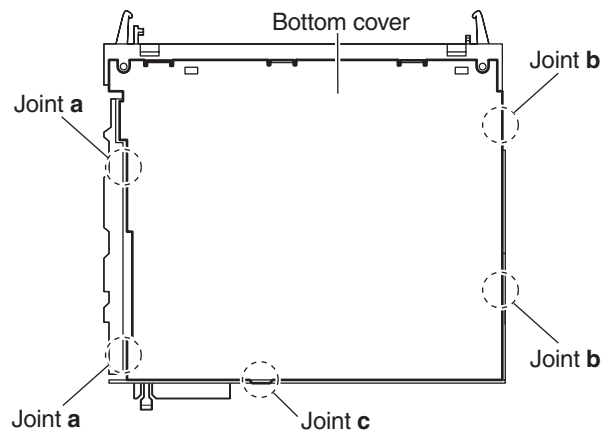

Fig.2
3.1.2 Removing the bottom cover (See Fig.2)
3.2.1 Removing the cassette guide (See Fig.2)